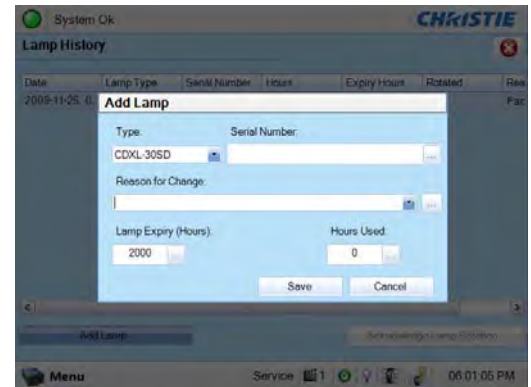

Figure 5-59 Add Lamp Window
6. Perform software adjustments. In the **Advanced Setup: Lamp History** window, click the **Add Lamp** button and record lamp type, serial number, reason for change and number of the hours logged on to the lamp. If the lamp has not been previously used, enter 0. Press **Save** to enter the data. (Figure 5-59)